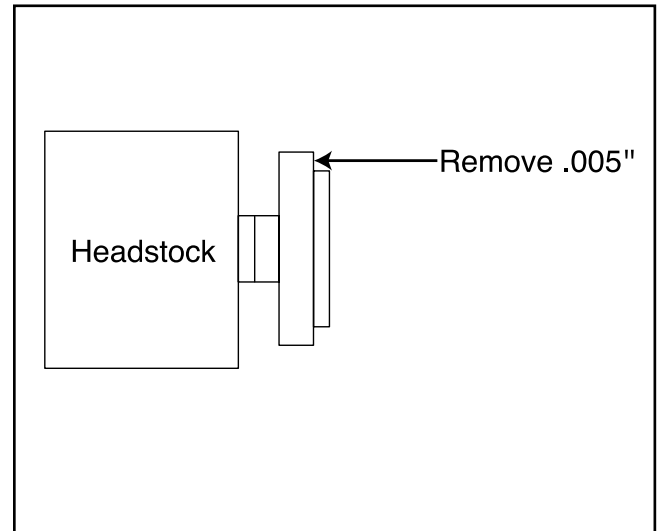

Figure 27. Truing the back plate.
6. Remove about .005" of material from the surface that the chuck mounts to. Be careful not to remove any material from the diameter of the shoulder. **Figure 27.**